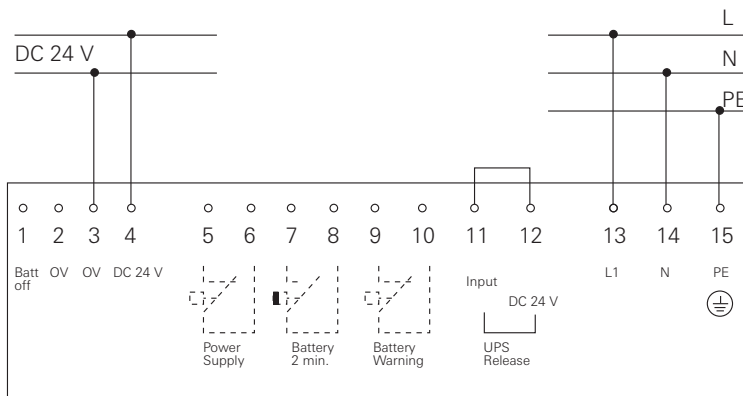

Fig. 3.20: Connections of power rectifier with UPS
- Connect power rectifier according to connection diagram (see Fig. 3.20).